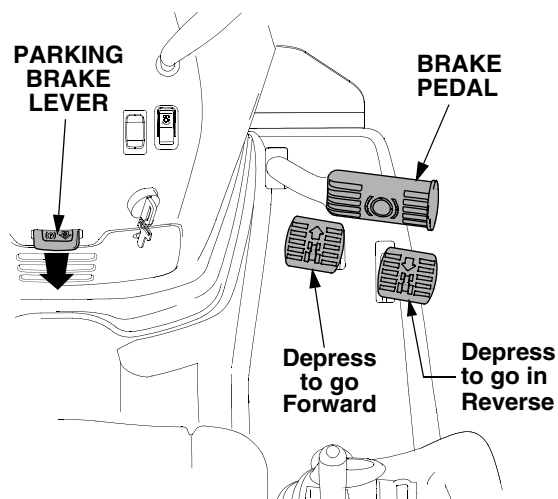

Figure 16
- Fully depress the brake pedal to bring the tractor to a complete stop. Push downward on the parking brake lever and release the pedal to engage the parking brake. See Figure 16.
- To move forward, slowly depress the forward control pedal (See Figure 16) until the desired speed is achieved. The speed of the tractor is directly related to the distance the pedal is depressed.
- To move in reverse, check that the area behind is clear then slowly depress the reverse control pedal. Refer to Figure 16.